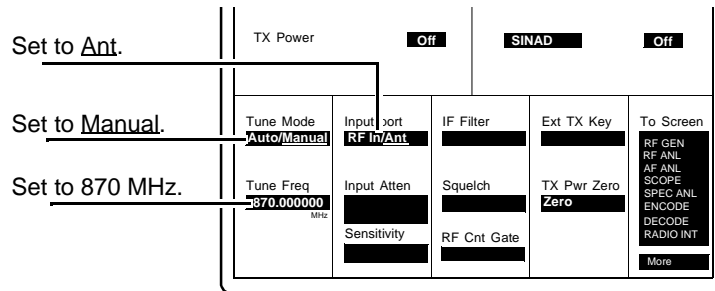

Figure 61
- Select **RF ANL** from the **To Screen** menu. The RF ANALYZER screen appears, see figure 61.